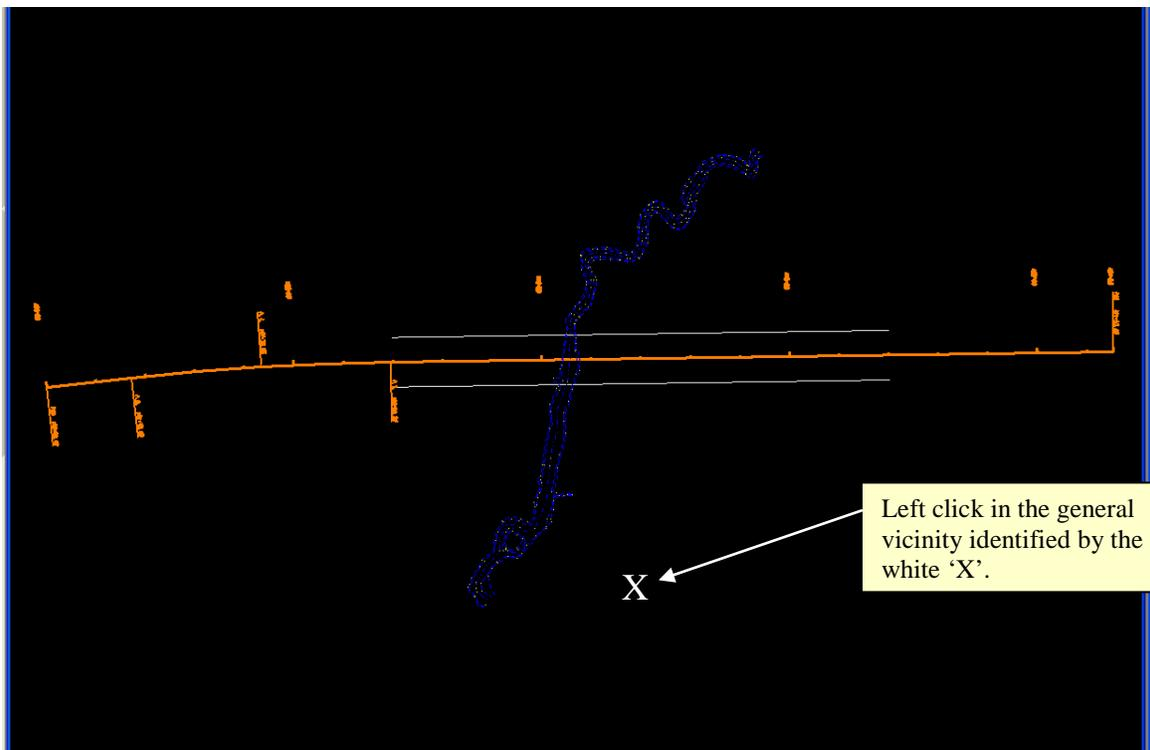

Figure L3-8 MicroStation View Window
- Notice in the bottom left corner of the MicroStation window you are prompted to **> Identify Location**. Left click in the general vicinity identified by the 'X' in *Figure L3-8*.